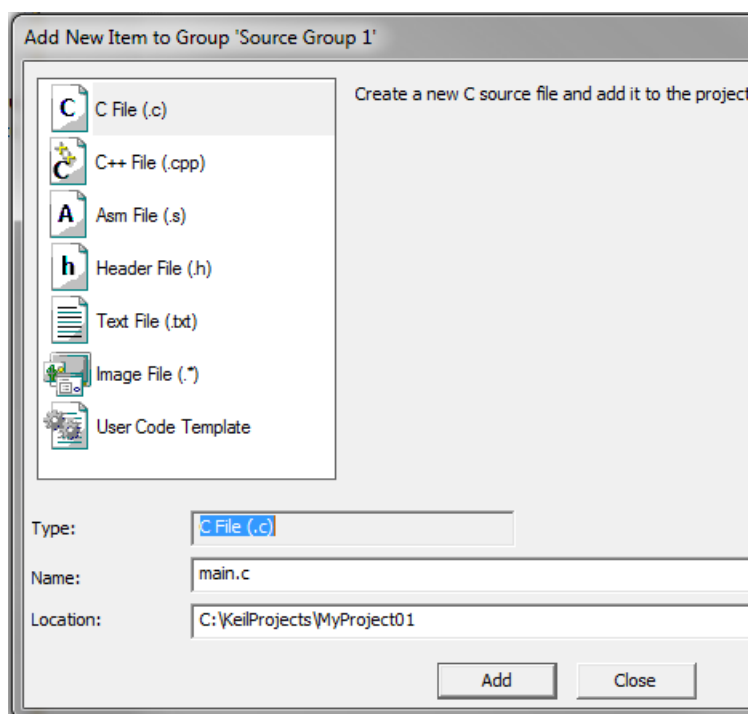

Figure 1-33. Adding new source file dialog
2. Select the C File (.c) option, and type a name of the file into the Name box, for example '*main.c*'. See Figure 1-33.